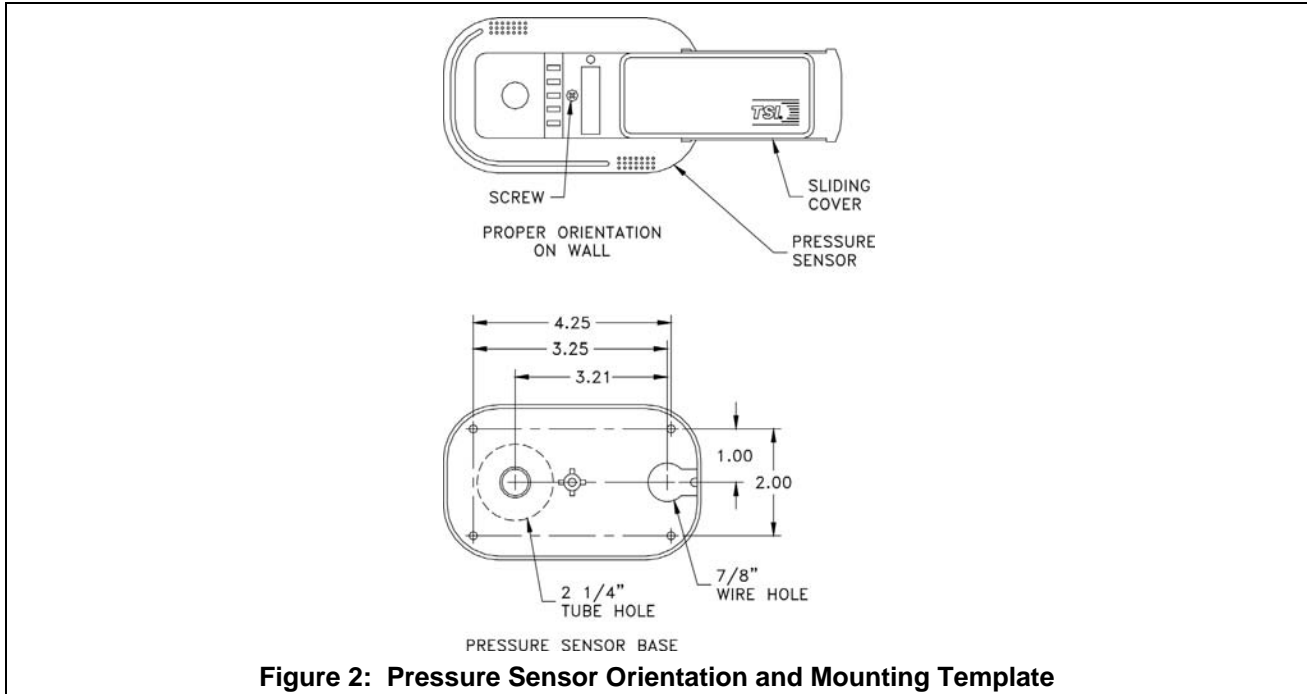

Figure 2: Pressure Sensor Orientation and Mounting Template
WARNING: 800243 pressure sensor must be mounted through the wall between the controlled space (isolation room) and referenced space (hallway), exactly as shown in Figure 2 and 3.
- The pressure sensor must be orientated on the wall as shown in Figure 2. Looking at the mounted sensor, sensor hole is on the left (2 1/4") and wire hole is on the right.
- Drill a 7/8" hole on the side of the wall that the pressure sensor will be mounted. This hole is for the six-conductor sensor cable. Refer to Figure 2 for a hole mounting pattern.
- Slide sensor cover to right and remove screw that holds the sensor base to the pressure sensor (Figure 2). Remove pressure sensor and store in a safe place.